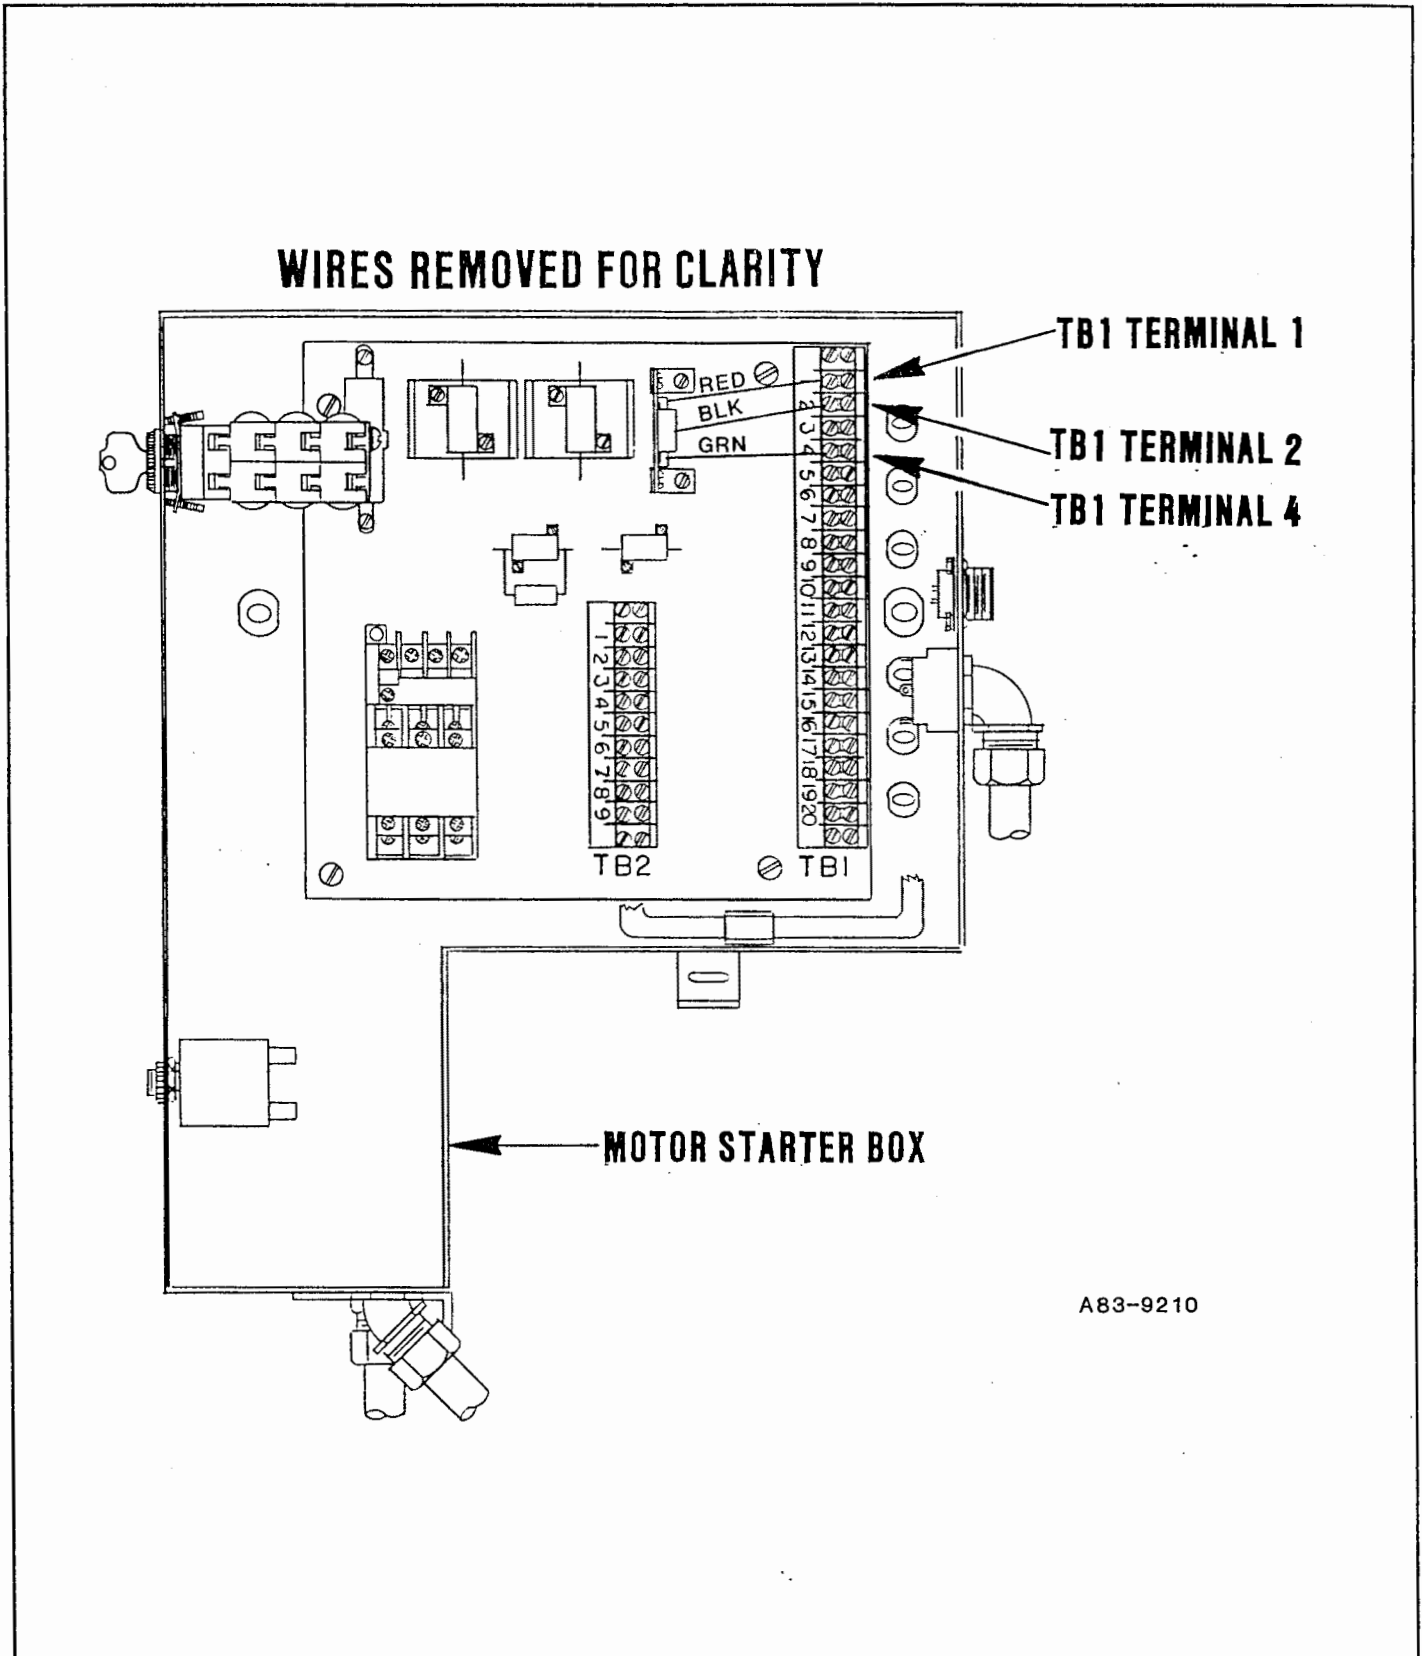

Figure 8.3 G
4. Unscrew PCB mounting screws (598) with screwdriver and remove brake solenoid PCB.
6. Connect brake solenoid PCB wire lugs to TB1 terminals 1, 2, and 4 as shown in Figure 8.3 G.